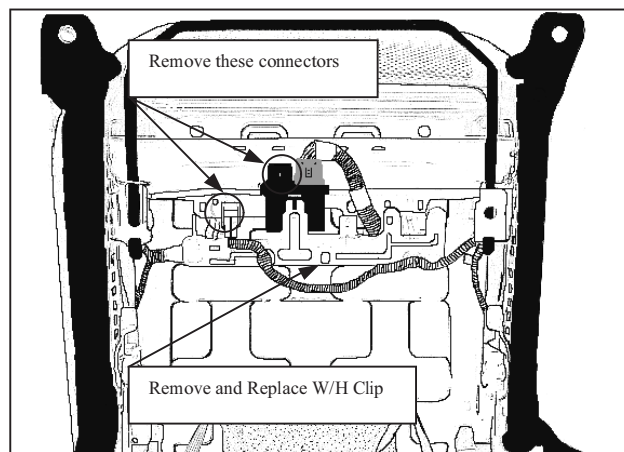

Figure D1
4. Apply vehicle protection to the center console area and tilt the seat back (be careful not to scratch vehicle and pull on wire harness), revealing bottom of seat and disconnect the connectors depicted in the circled area and remove the seat clip depicted by the arrow in Figure D1. A replacement clip is in the kit.